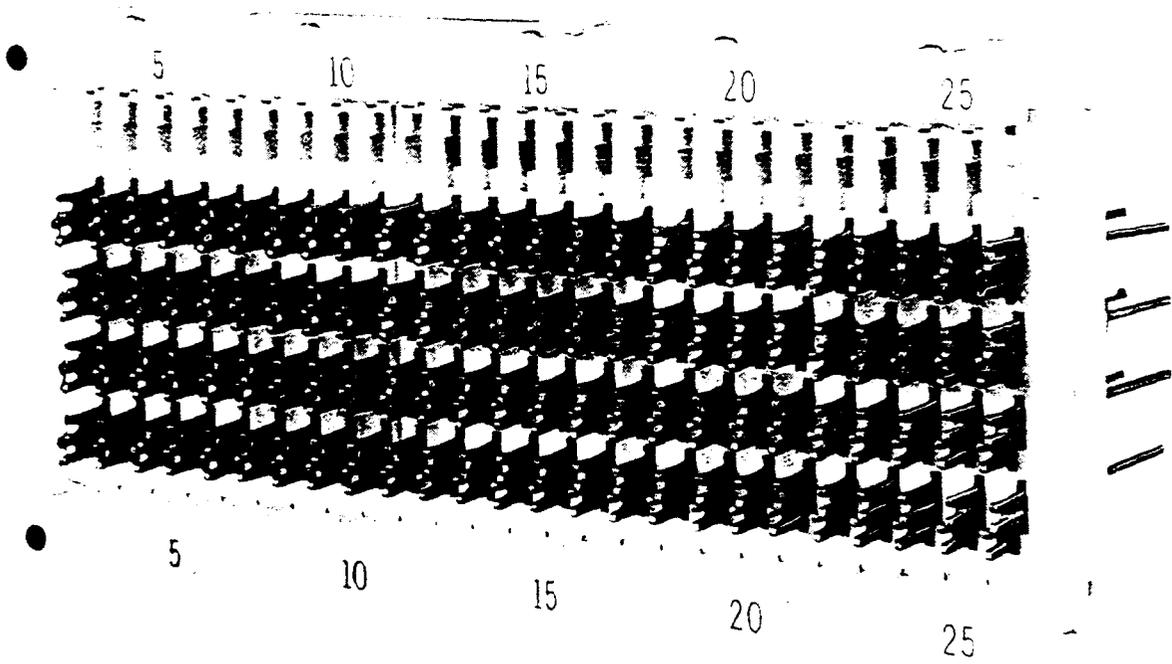

Figure 1—78-Type Connecting Block — 50-Pair Terminal Arrangement
1. 100 twin-clip terminals arranged in two paired rows and 25 columns for 50-pair terminations used with loop cable and tie cable requirements (Figure 1)